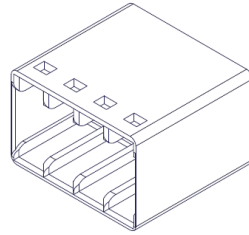
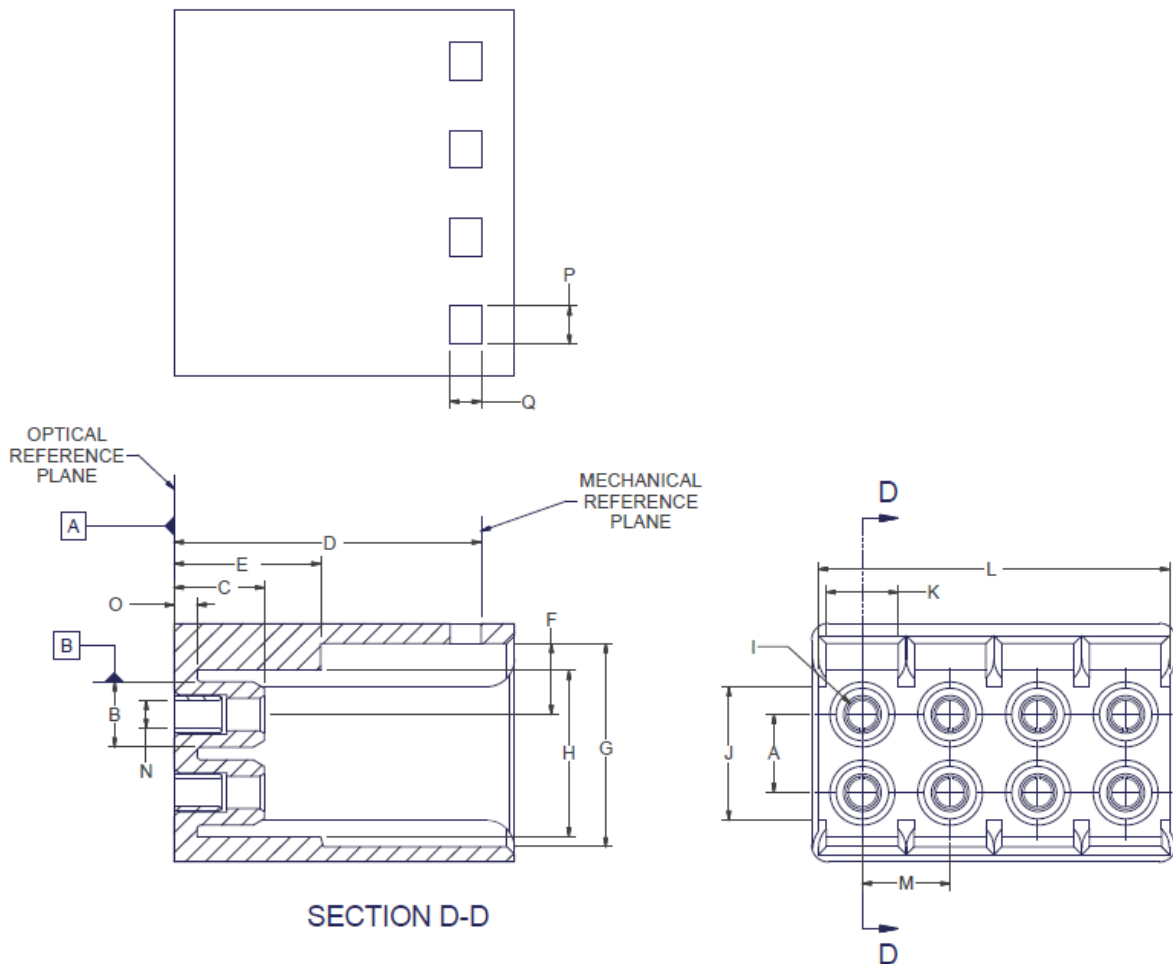

Figure 3.1: MDC Receptacle for QSFP-DD Module Applications
Figure 3.2 – MDC Receptacle Interface (QSFP-DD)
The MDC receptacle for QSFP-DD module applications (Figure 3.1) will allow access for up to (4) MDC two-fiber optical connectors. Receptacle interface diagram and dimensions are provided in Figure 3.2 and Table 3.3 below.